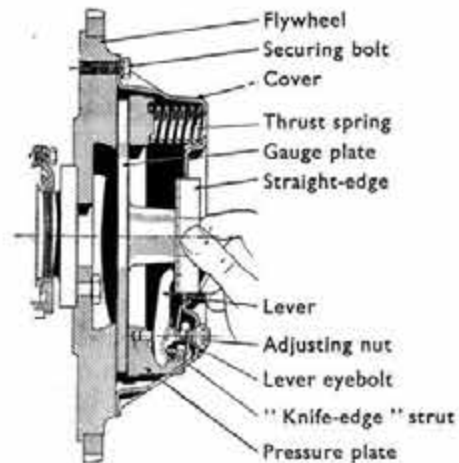

Fig. E.6.
and the flywheel. Proceed as follows:—Place the gauge plate, Part No. CG.14322, centrally in the flywheel in place of the driven plate. Fit the cover assembly to the flywheel by tightening the securing bolts (2) a turn at a time by diagonal selection until fully secured. Place a straight-edge across the gauge plate boss and the tip of one release lever (Fig. E.6) and adjust the release lever, if necessary, by turning the adjusting nut (14) until the tip of the lever is exactly level with the top of the gauge boss. Adjust the remaining levers in a similar manner. The setting should be within .005 in. (.13 mm.).